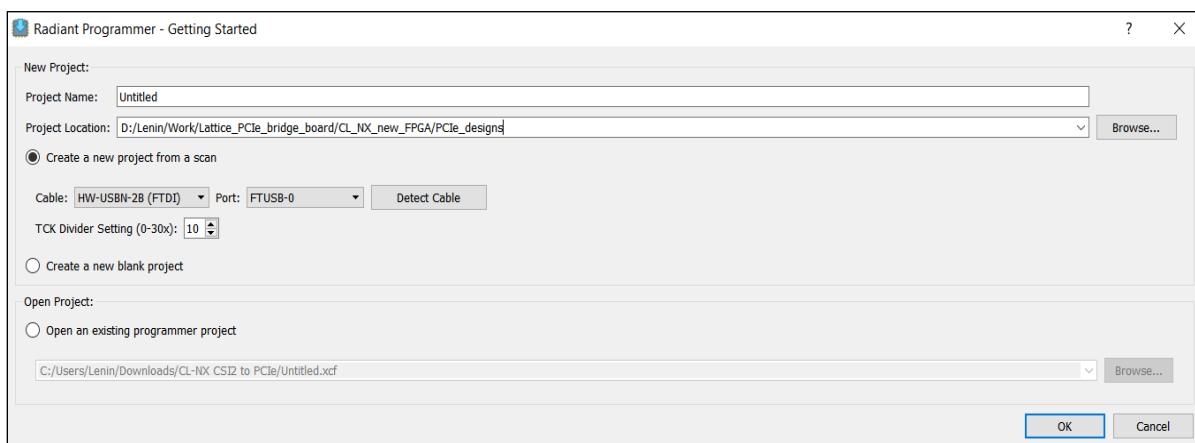

Figure 5.7. Creating a New Project from a Scan
1. Create a new project using the Lattice Radiant Programmer software. In the **Getting Started** dialog box, indicate **Project Name** and **Location** as shown in Figure 5.7.